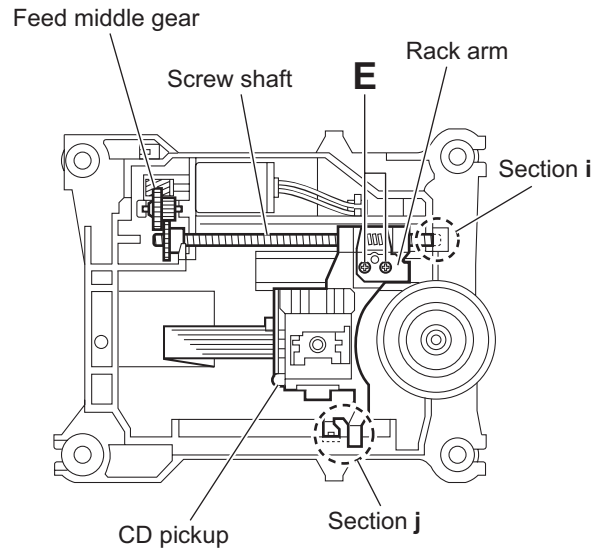

Fig.8
- (3) Remove the two screws **E** attaching the rack arm and take out the rack arm. (See Fig.8)
- (4) Remove the feed middle gear and remove the screw shaft of the CD pickup from the section **i** on the traverse mechanism assembly. (See Fig.8)
- (5) Remove the CD pickup from the section **j** of the traverse mechanism assembly and take out the CD pickup with the screw shaft. (See fig.8)
- (6) Pull the screw shaft out of the CD pickup. (See Fig.8)
- (2) Attach the shaft. (See Fig.8)
- (3) Align the CD pickup to the section **j** of the traverse mechanism assembly first, and set the screw shaft of the CD pickup in the sections **i** of the traverse mechanism assembly. (See Fig.8.)
- (4) Attach the rack arm and feed middle gear. (See Fig.8)